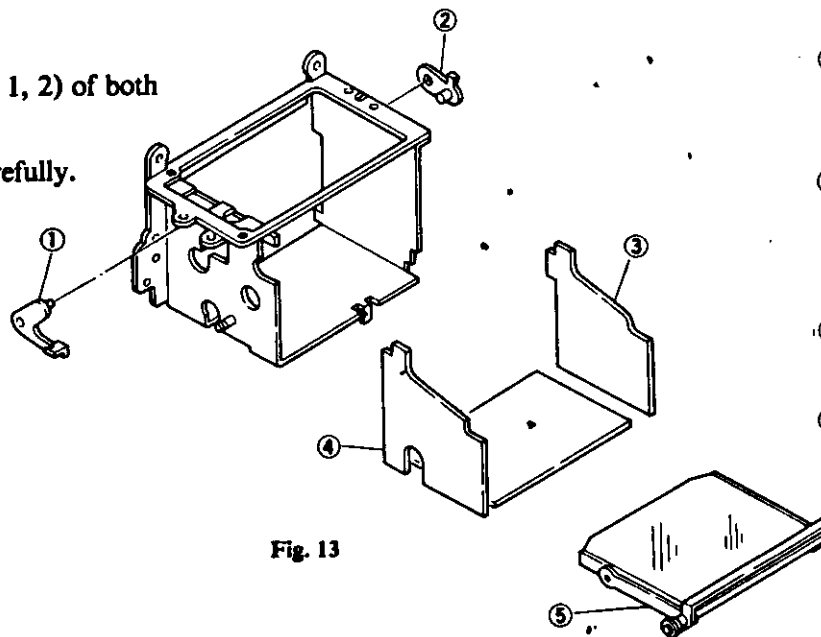

Fig. 13
9. Mirror frame assy (see Fig. 13)